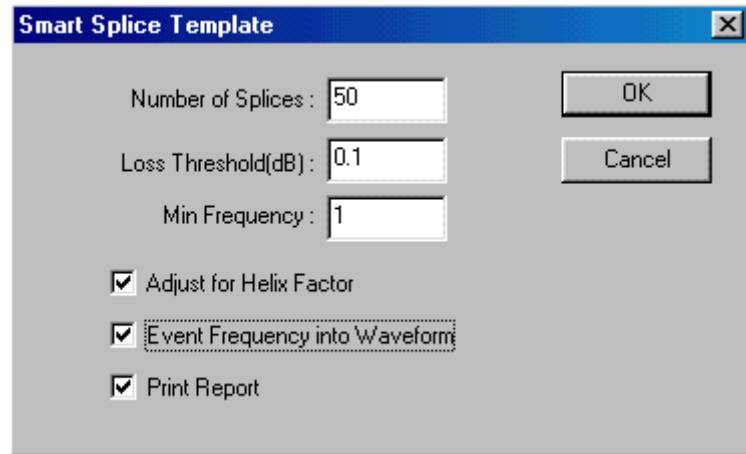

Figure 12-2: Smart Splice Template Dialog Box
8. Set up the dialog box as shown in Figure 12-2.